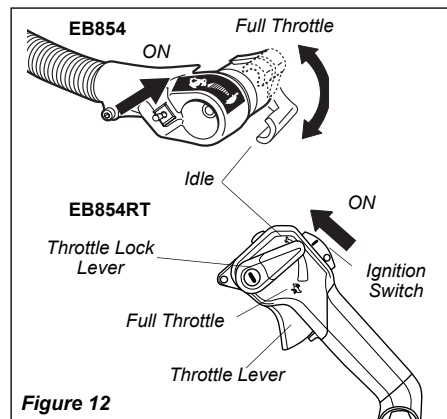

Figure 12
4. Move the ignition switch to the "I" (ON) position. Move the throttle lever to half throttle. **RT Model:** Move the ignition switch to the "I" (ON) position, then depress the throttle lever halfway and lock throttle by moving the throttle lock lever halfway down. See Figure 12.